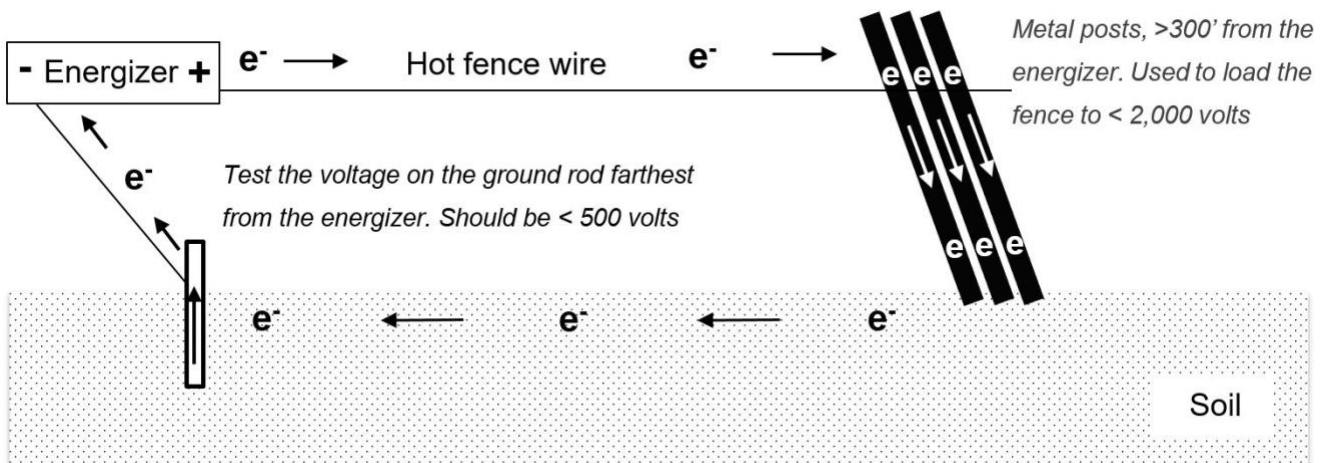

Figure 3. How to test a grounding system.
- 1. First, turn off the energizer.** Use multiple metal posts placed against the fence wire at least 300 feet from the energizer to load down the fence until you obtain 2,000 volts or less on the fence (figure 3). This is an important step. Loading down the fence allows electrons to flow into the soil so you can test the capability of your grounding system. The amps reading on the fence will increase as the voltage decreases. *Turn the energizer back on.*